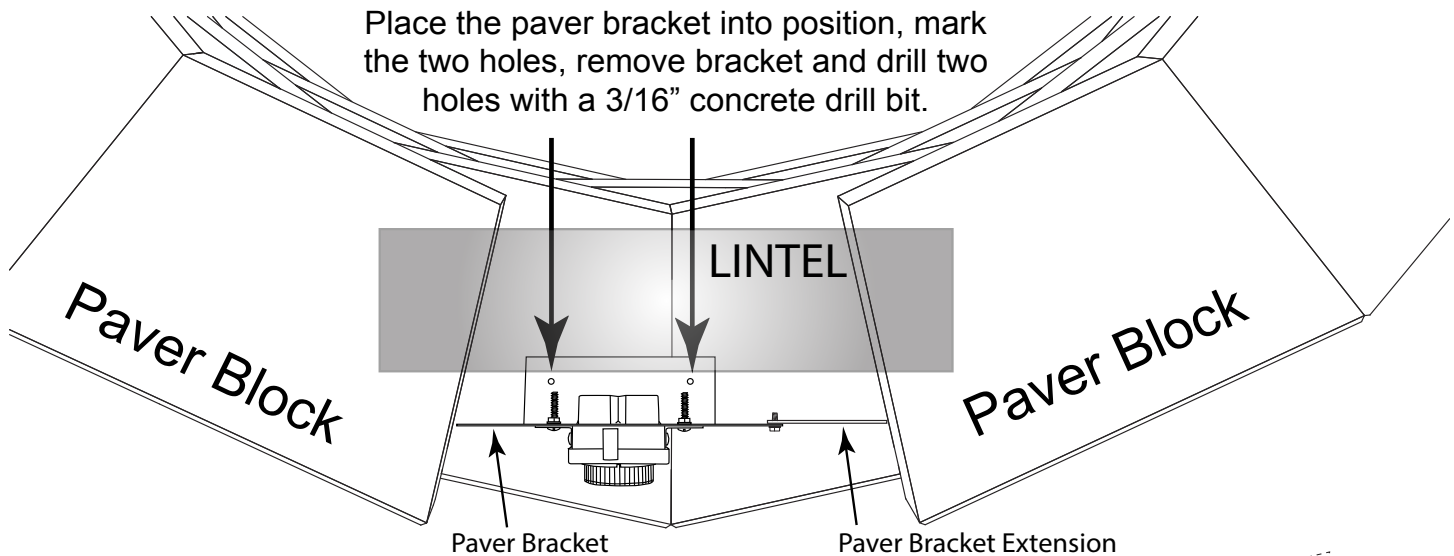

Fig. 5 Shows mounting paver bracket into place on paver block.
The paver bracket extension installs behind the paver bracket lip and is secured with the two hex head $\frac{5}{16}$ " screws; one screw at top and one on the bottom. See Figs. 5 and 6. It is used to fill the gap next to the paver bracket for a complete finished look. In some applications the extension is not needed and can be discarded.
Place the lintel across back side of the paver block after you have secured the paver bracket to support your next row of blocks. See the shaded area in Fig. 5 showing the placement of the lintel. Securing the lintel with some type of adhesive is optional.
Step 5: The paver bracket extension can be used to extend the bracket from 8-inches wide up to $11\frac{3}{4}$ " wide if necessary. The holes in the bracket extension allow for $\frac{1}{2}$ " increments for width adjustment. Figs. 5 and 6 show the extension in the properly oriented position. If the extension bracket mounts behind the paver bracket with two $\frac{5}{16}$ " hex screws. If it is too wide, there are perforated areas that allow you to bend and break off if the entire width is not needed.